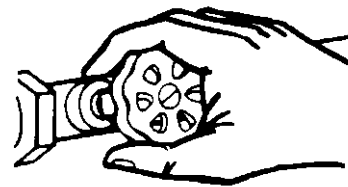

FIGURE 23.
2. Turn off the water supply to the water heater at the water shut-off valve or water meter. See Figure 23.